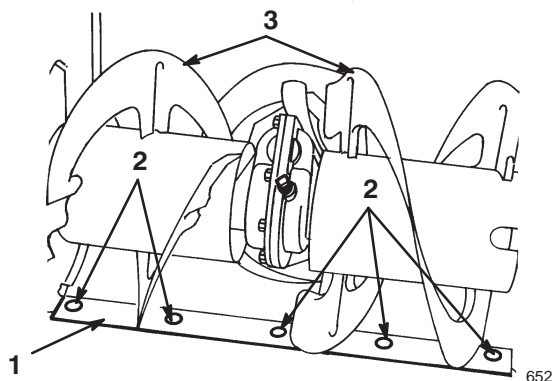

Figure 20
1. Skid (2)
2. Flange nuts (4)
3. Auger side plate (2)
6. Support the **auger blades** so that they are 1/8 inch (3 millimeters) off the ground (Fig. 20).
8. To adjust the scraper, loosen the 5 mounting screws (Fig. 20), level the scraper, and tighten the mounting screws.